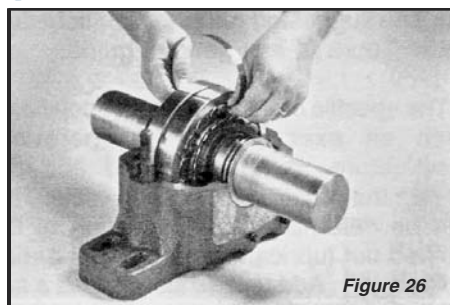

Figure 26
a. Measure the initial built-in clearance across the top rollers by sliding the largest possible feeler gage between the rollers and outer ring raceway as shown in Figure 26, Page 23. A snug, or hard, feel is recommended. It must be possible to remove the shim by pulling it straight out.
*Clearance is measured between rollers and outer race after mounting and tightening adapter. Refer to Figure 26, Page 23